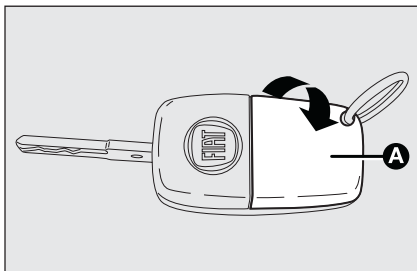

fig. 7
- open the snap-fitted lid **A**-fig. 7 as shown by the arrow